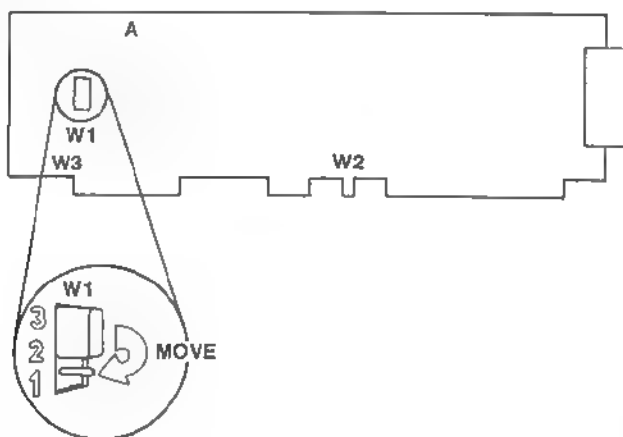

Figure G-1. Two-Pin Plastic Jumper
2. Locate the indigenous Video Display Controller and move the 2-pin plastic jumper at W1 from position 3-2 to 2-1 as shown in Figure G-1.